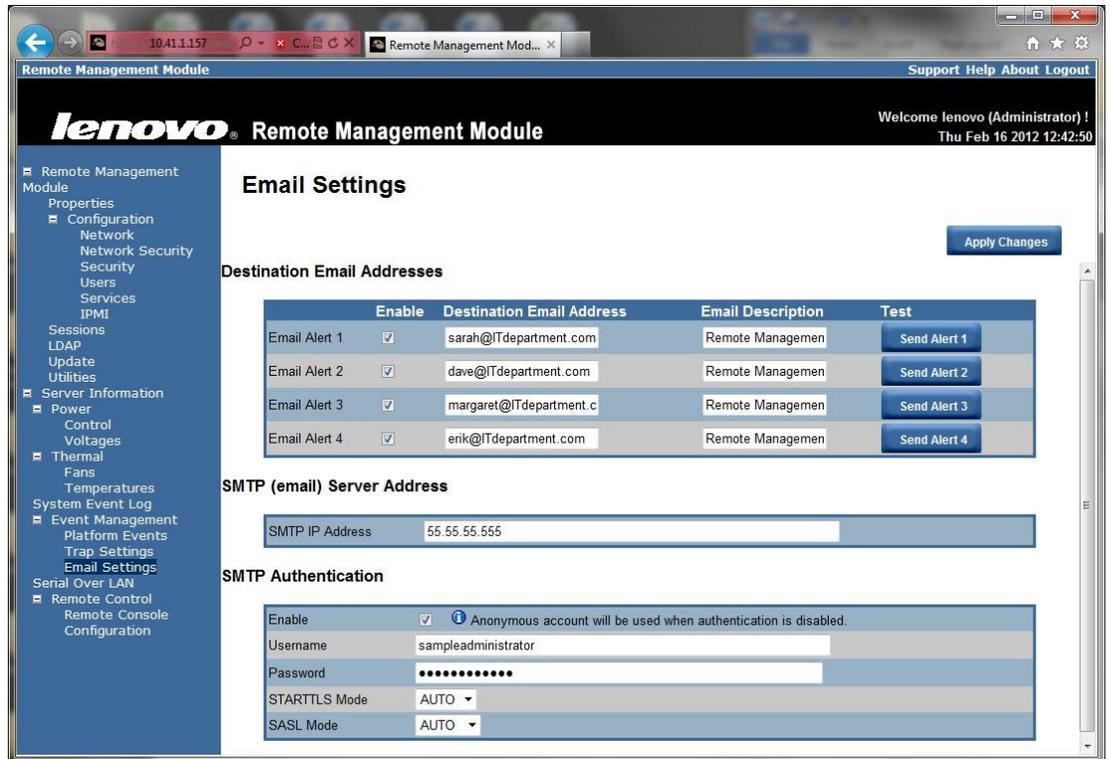

Figure 10. Configuring email alert settings on the Lenovo Remote Management Module.
4. Enter the IP address of the SMTP or mail server. If your SMTP server requires authentication, enter the appropriate credentials and check the Enable check box. (See Figure 10.)